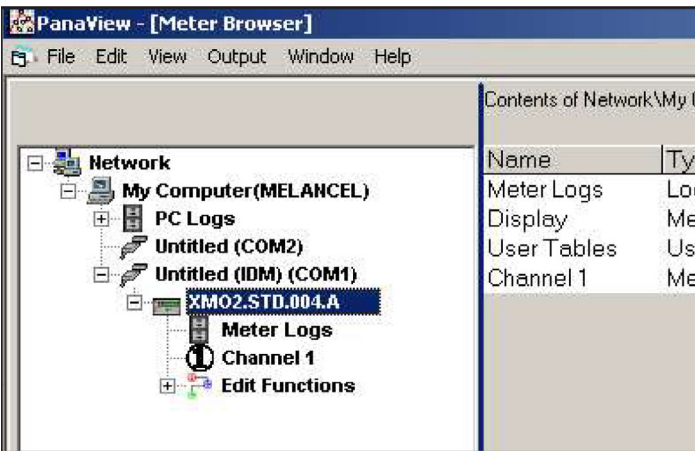

Figure 83: New meter browser with meter branch
3. Then expand the meter tree as shown in *Figure 83* below.